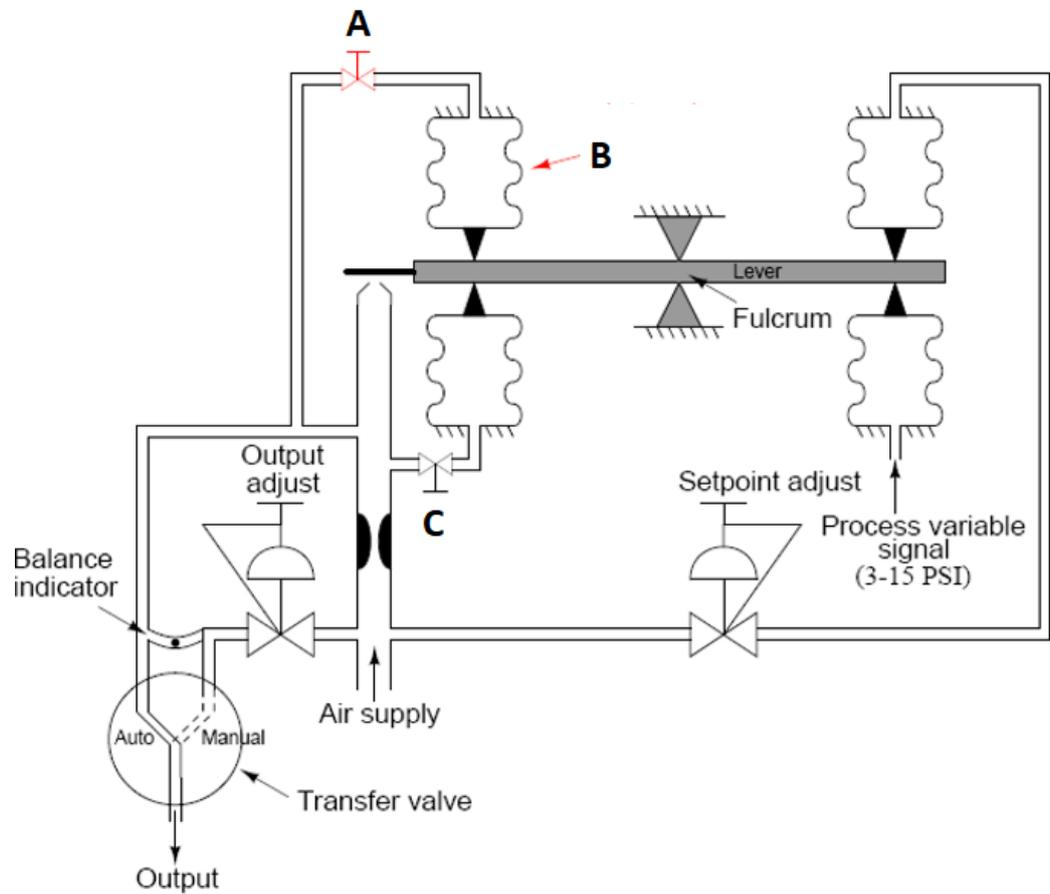

Figure 4(a)
- (a) Identify the types of controller in **Figure 4 (a)** and name the components A, B, and C.